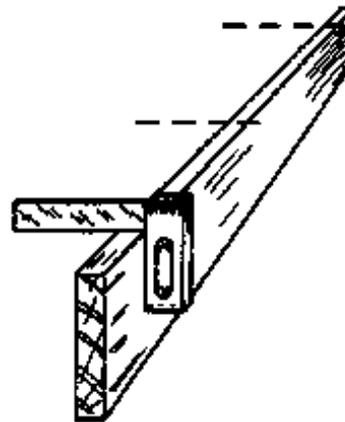

Fig. 4
**Using a try square, check whether the angle between the face side and the edge is exactly 90 degrees. Make this test at several places (Fig. 4).**